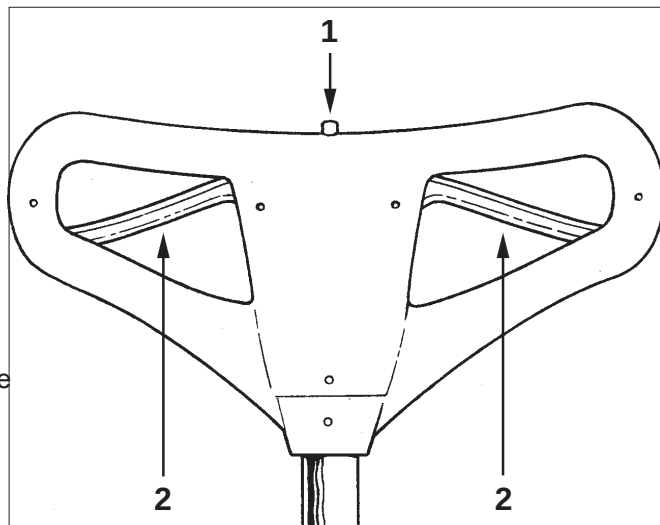

Figure 5
The switch to start and stop the machine is activated by the interlock switch (1) and the levers (2) under the handle grips. See figure 5.
3. Push the interlock switch (1), and apply pressure to the levers (2). See figure 5.